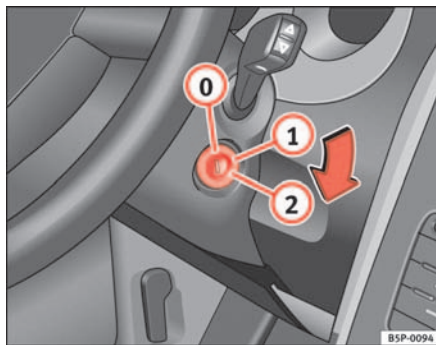

Fig. 132 Ignition key positions
In the position ⇒ fig. 132 the ignition and the engine are OFF and the steering may be locked.
- Turn the ignition key to position ⇒ page 161, fig. 132 ①. The indication lamp  will light for engine pre-heating.
- When the warning lamp goes out, turn the key to position ② to start the engine. Do not press the accelerator.
- Turn the ignition key to position ⇒ page 161, fig. 132 .